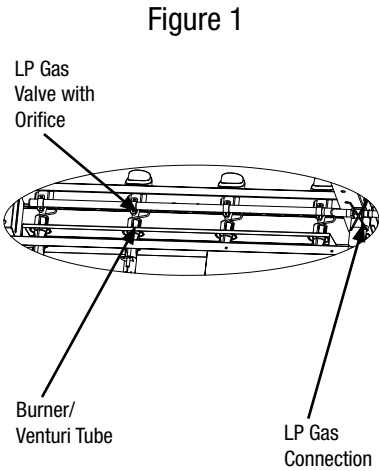

Figure 1
4. Please refer to diagram for proper installation (Figure 1).
5. Spoon several drops of solution, or use a squirt bottle, at all "X" locations (Figures 1 and 3).